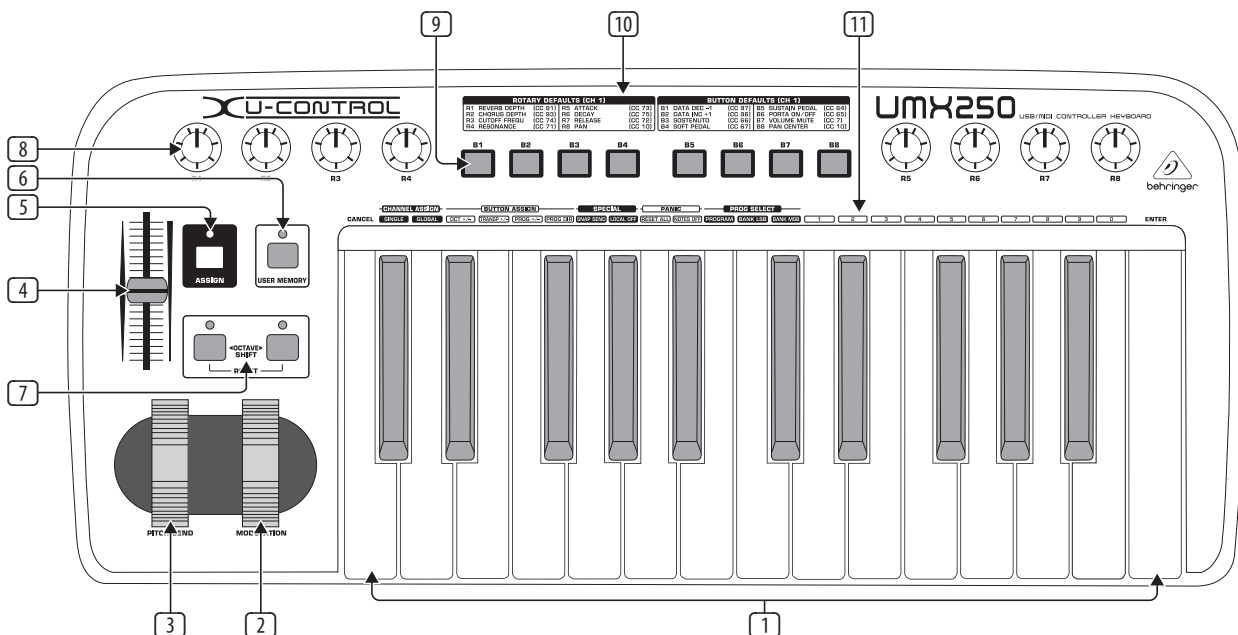

Fig. 3.1: Top view
- ◆ You use the preset controller configuration set in the factory (see Fig. 3.1, ). In this case, you only need to make the assignments on the receiving device.